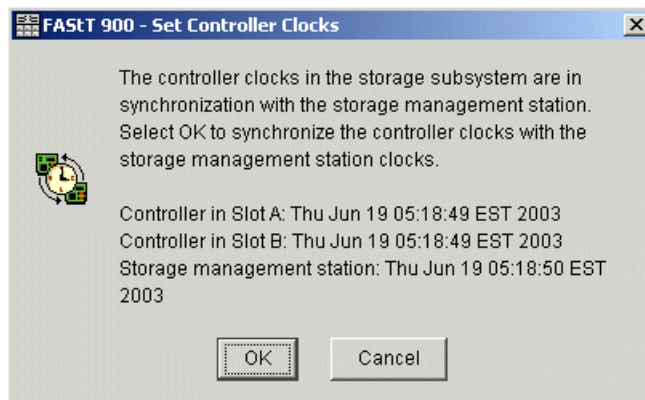

Figure 5-21 Setting the controller clock
3. Since the FAST Storage Server stores its own event log, synchronize the controller clocks with the time of the host system. If you have not already set the clocks on the Storage Servers, set them now. Be sure that your local system is working using the correct time. Then click **Storage Subsystem -> Set Controller Clock** (Figure 5-21).